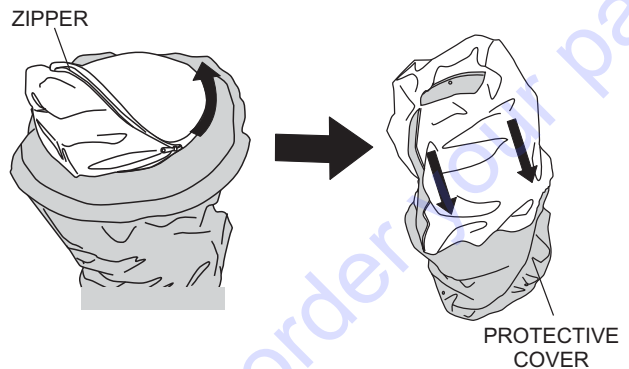

Figure 14. Unzipping the Protective Cover
3. Unzip the zipper on the protective cover (Figure 14), and pull down cover over balloon/lamp assembly.